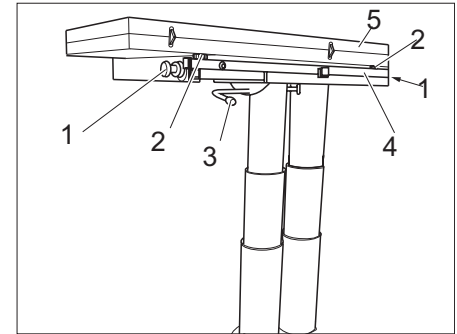

Fig. 63 Increasing the table size
- ▶ Loosen knurled screws (Fig. 63,1) on both sides.
- ▶ Swivel the catch lever (Fig. 63,3) to the left. The lift-off table is unlocked.
- ▶ Pull out the table base (Fig. 63,4).
- ▶ Fold out the table half (Fig. 63,5).
- ▶ Use the two adjusting screws (Fig. 63,2) to adjust the table-top to the desired height.
- ▶ Swivel the catch lever (Fig. 63,3) to the right. The lift-off table is locked.
- ▶ Release the locking lever (Fig. 63,3).
- ▶ Fold in the table half (Fig. 63,5).
- ▶ Screw the two adjusting screws (Fig. 63,2) in.
- ▶ Push in the table base (Fig. 63,4).
- ▶ Tighten knurled screws (Fig. 63,1) on both sides.
- ▶ Swivel the catch lever (Fig. 63,3) to the left. The lock is open.
- ▶ Screw the two adjusting screws (Fig. 63,2) in, if necessary.